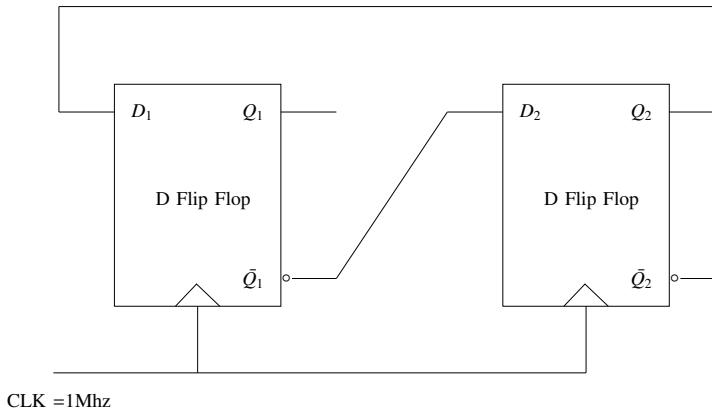

Fig. 5.9
9. In a given sequential circuit in Fig. 5.9, initial states are  $Q_1 = 1$  and  $Q_2 = 0$ . For a clock frequency of  $1\text{MHz}$ , the frequency of signal  $Q_2$  in kHz, is (rounded off to the nearest integer)